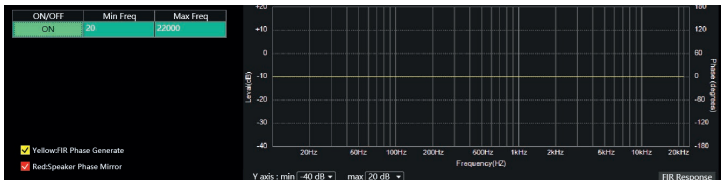

Figure 7.2
- ① : Phase frequency correction range settings.
- ② : Phase display area after frequency adjustment (see Figure 7.2)